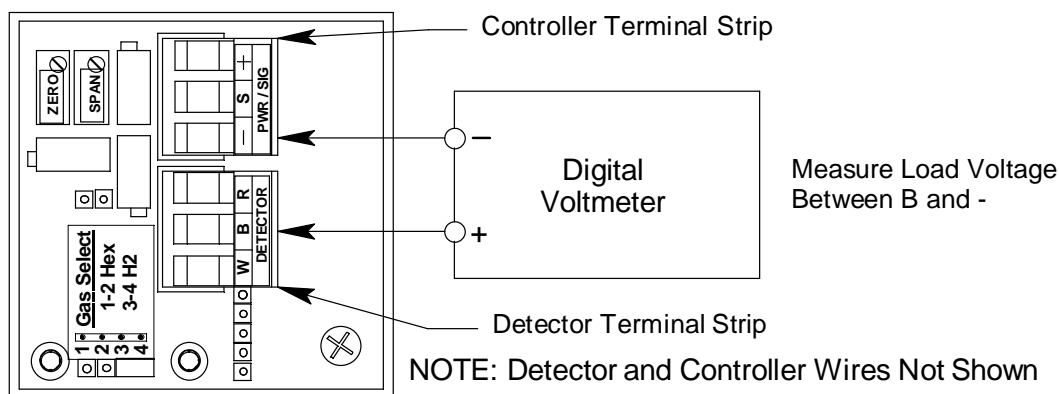

Figure 4: Load Voltage Measurement
- Measure the voltage between the B terminal on the detector terminal strip and the - (negative) terminal on the controller terminal strip as shown below in Figure 4.